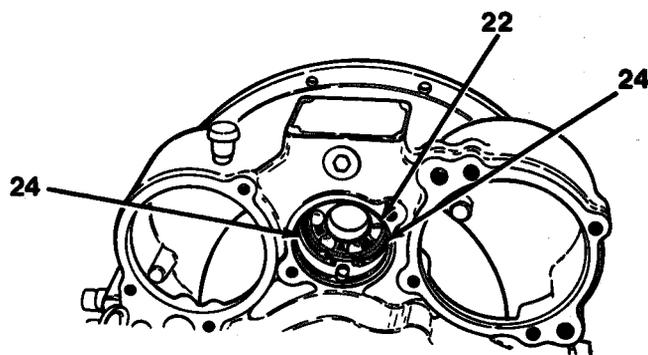

Figure 11-7
18. Remove two snap rings (24). Drive out inside bearing. (22, Figure 11-7).